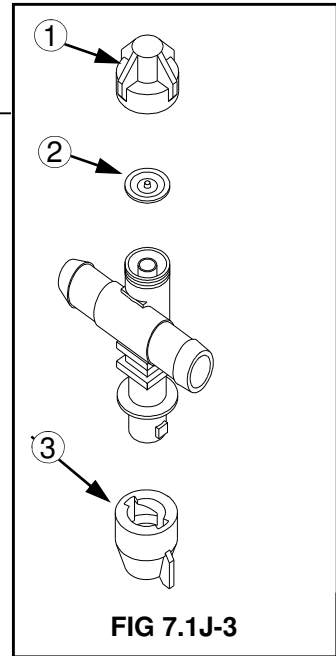

FIG 7.1J-3
**SPRAY TIPS**— At the beginning of each season, or as required, remove a random sample of spray tip caps (fig. 7.1J-3, item 3) and inspect the nozzle tips. If they are plugged or worn, clean or replace them. **DO NOT** put your mouth to a spray tip to try to unplug it!
**NOZZLE DIAPHRAGMS**— At the beginning of each season, remove each nozzle body cap (fig. 7.1J-3, item 1) and inspect the diaphragm (fig. 7.1J-3, item 2) for wear or fit. Replace if necessary. Refer to accompanying manual containing nozzle information.